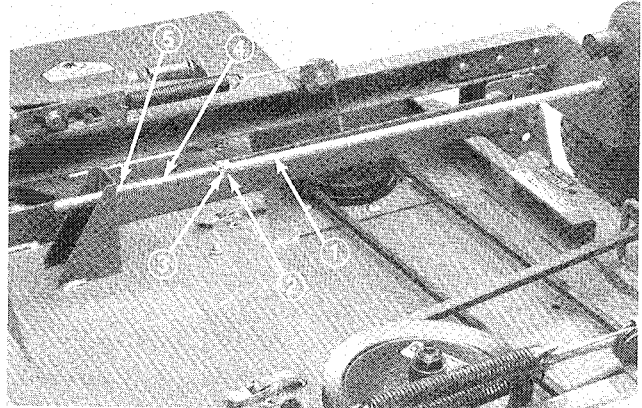

Figure 4
2. Thread (2) jam nuts on each adjusting shaft (approximately 9 inches) (Fig. 4).
3. Slide a washer, spring and bushing onto each adjusting shaft. Bushing to be positioned so flange end is against spring (Fig. 4).
hole in carrier frame mounting tab. Small end of bushing to fit into hole in deck bracket (Fig. 4).
5. To tension belt, tighten front jam nut on each adjusting shaft until springs are compressed to a length of 5", measured between washer and bushing (Fig. 4). Secure rear jam nuts.